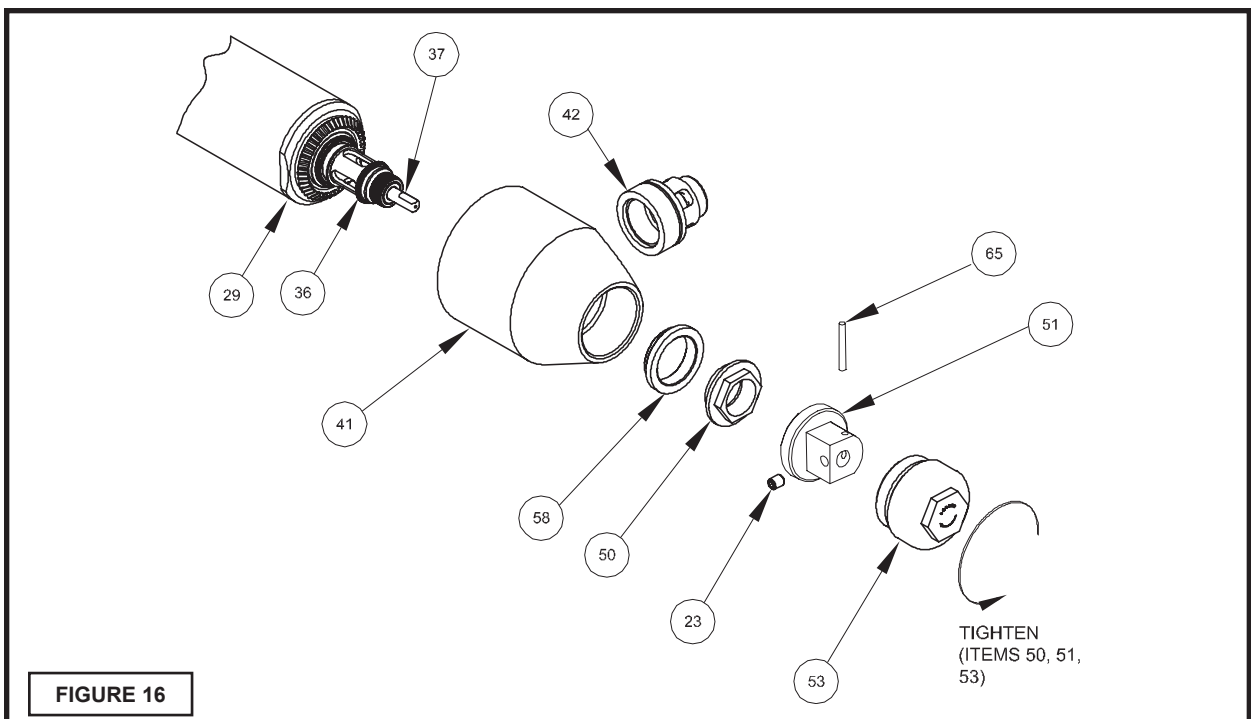

FIGURE 16
See Figure 16.
**IMPORTANT!** Items 50, 51 and 53 have **LEFT HAND** threads. Tighten per directional arrow on Figure 16.